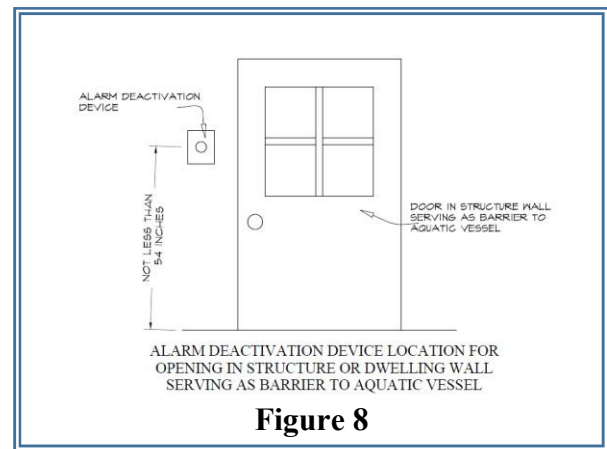

Figure 8
- a. 2. Doors, and operable windows with sill height of less than 48", with direct access to the pool, shall be equipped with an alarm in accordance with UL 2017. The deactivation switch(es) shall be located at least 54 inches above the threshold of the door **See Figure 8**